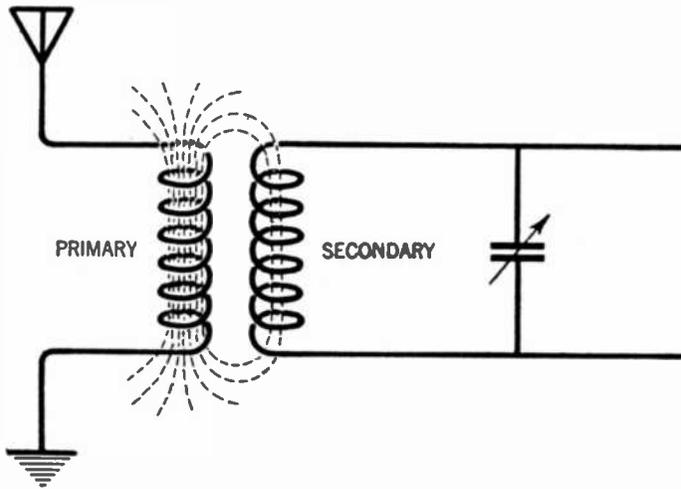

FIG. 57.—Magnetic or inductive coupling.
*Answer.* (a) A diagram of magnetic coupling is shown in Figure 57. There is no metallic connection between the primary and secondary circuits. All of the energy is transferred from the primary to the secondary circuits by electromagnetic induction. Magnetic, electromagnetic and inductive coupling are identically the same.